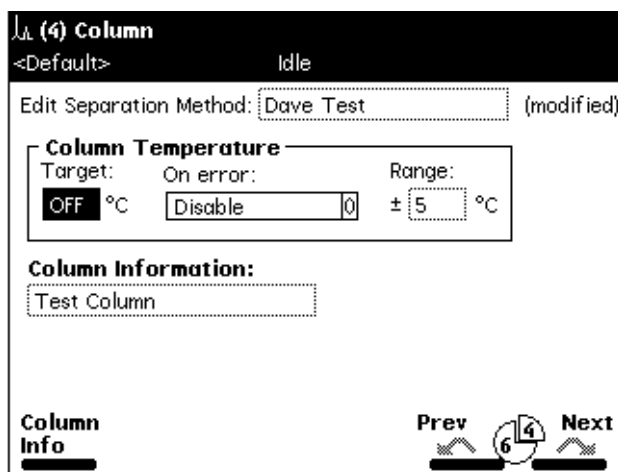

Figure 6-7 Column Screen
1. Press the **Next** or **Prev** screen keys (as appropriate) to display the Column screen (Figure 6-7).